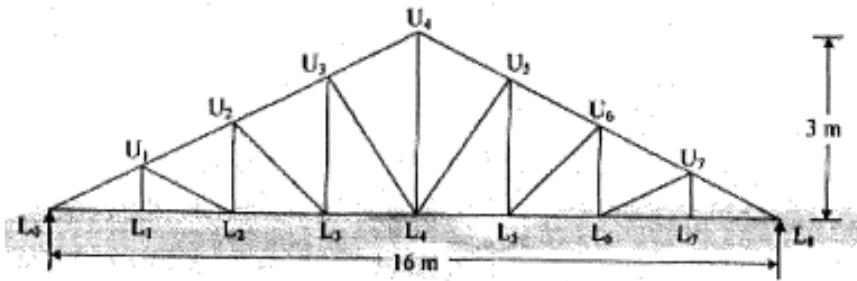

Fig. 6
6. Determine the panel point dead, live and wind load for the truss shown in Fig. 6 for an industrial building located in Mumbai. The coefficient of external (c_{pe}) and internal (c_{pi}) wind pressure are 0.6 and ± 0.2 respectively. The spacing of truss is 4 m. Also design member L_0L_1 , L_0U_1 and L_1U_1 . 25